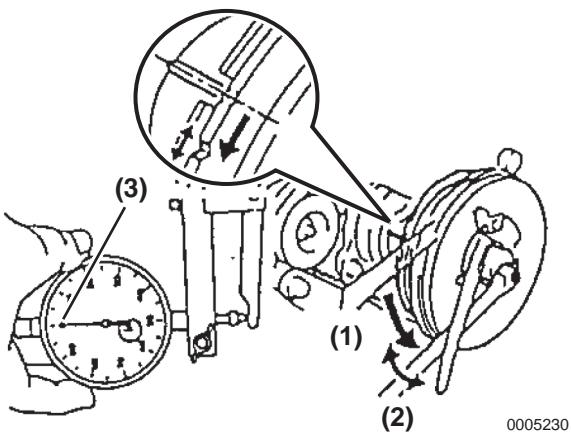

Figure 5-229
7. Turn the crankshaft clockwise **(Figure 5-229, (1))** and counterclockwise **(Figure 5-229, (2))** and check that the dial indicator reads the minimum. *NOTICE: Check that the minimum reading is zero 0 mm (0 in.) (Figure 5-229, (3)).*